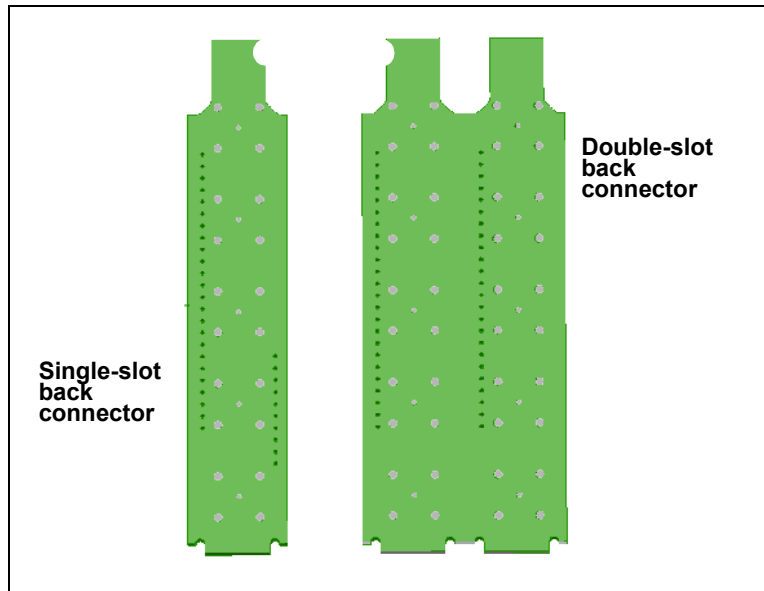

Figure 2-5. Blank Back Connectors
1. Remove a blank back connector from the frame. See Figure 2-5.